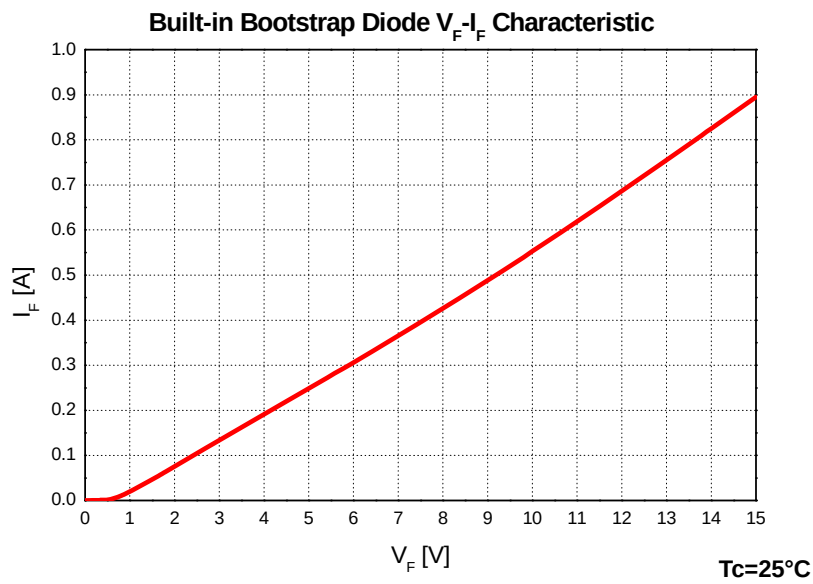

Figure 2. Built-in Bootstrap Diode Characteristics (Typical)
5. Built-in bootstrap diode includes around 15Ω resistance characteristic. Please refer to Figure 2.